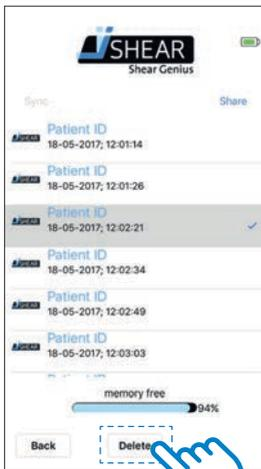

Figure 34 - Tap Delete Log
6. Tap the Log(s) you wish to delete and tap 'Delete' (see Figure 34).